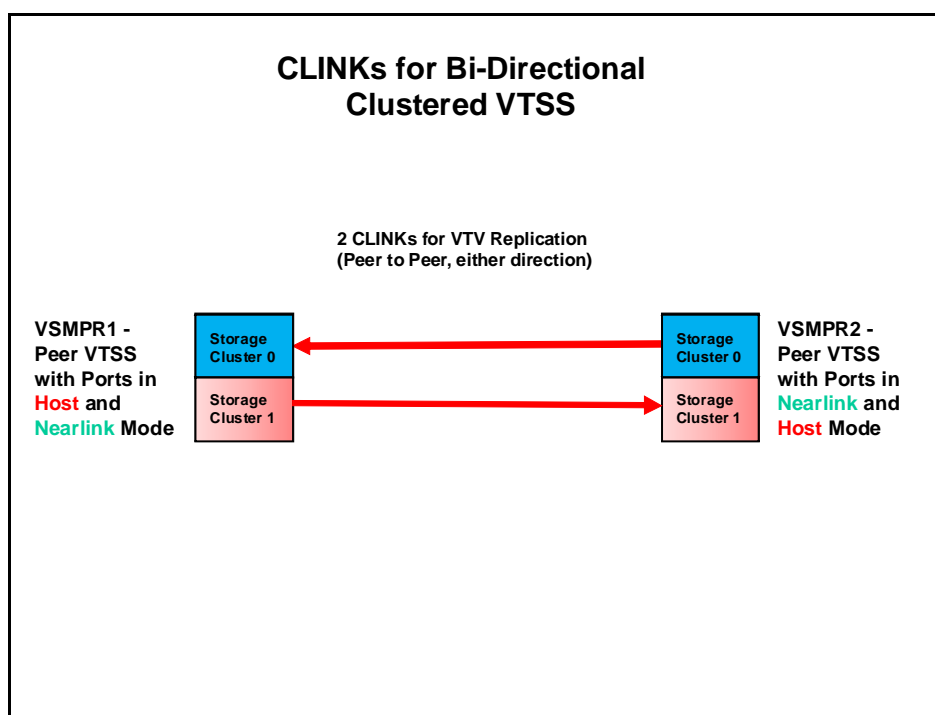

FIGURE 4-2 CLINKs for Bi-Directional Clustered VTSS
FIGURE 4-2 shows 2 CLINK ports on each VTSS configured for Bi-Directional Clustering. **Each** Peer VTSS (VSMPR1 and VSMPR2), must have **both** of the following:
Caution – In FIGURE 4-2, also note that each CLINK is attached to **the same Storage Cluster** on each VTSS, **which is a requirement**. Failure to configure in this manner can produce Replicate, Channel, and Communication errors!
- ? As shown in FIGURE 4-2, each CLINK in a bi-directional cluster **must** be attached to **the same Storage Cluster** on each VTSS. Failure to configure in this manner can produce Replicate, Channel, and Communication errors!